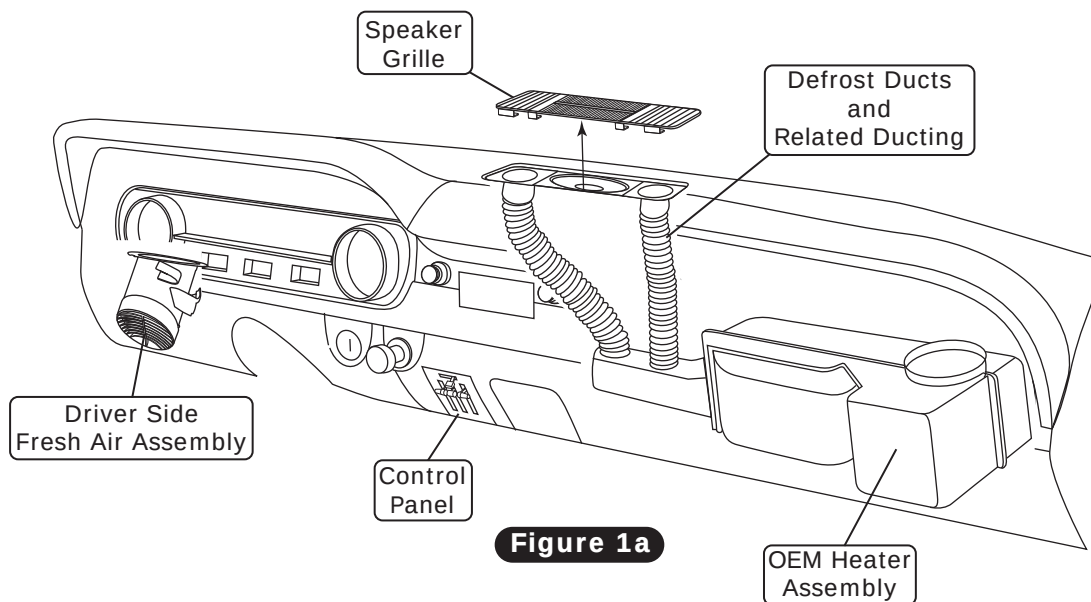

Figure 1a
5. Remove the OEM heater assembly (discard) (See Figure 1a, below).
6. Remove the driver-side fresh air assembly and cable (discard) (See Figure 1a, below).
7. Remove the OEM control panel assembly (retain) (See Figure 1a, below). **NOTE: Refer to control panel conversion kit instructions for installation of controls.**
9. Remove the speaker grille (retain) (See Figure 1a, below).
10. Remove the OEM defrost ducts and all related ducting (See Figure 1a, below).